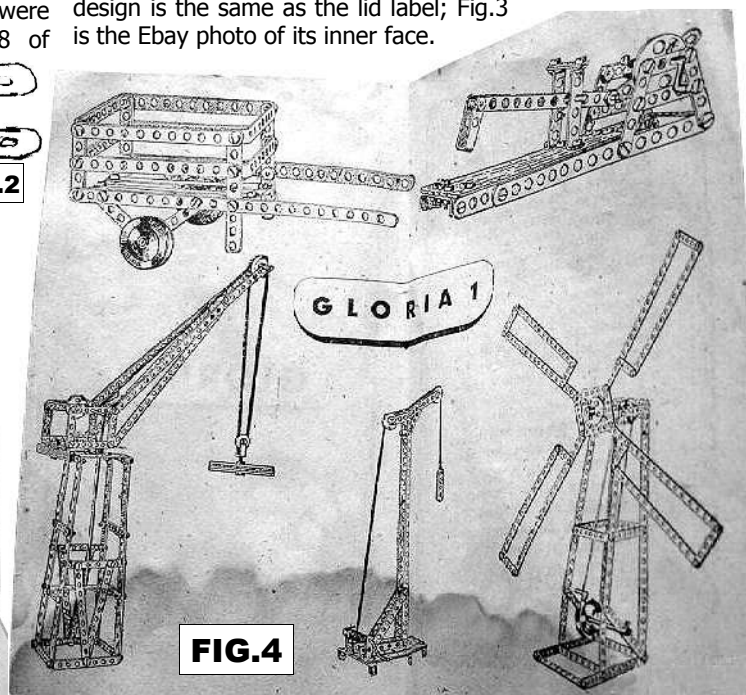

FIG.4
6. **GLORIA** Jean-Pierre Guibert has sent details of his No.1 set, and included the photo below which shows each of the parts except the 1*4*1h DAS. The details correspond closely to the photo in 28/839 & the notes in 43/1316, but with the following differences & additions. The box measures 160*95*21mm and the manual (as Fig.4 in OSN 43) 150*85mm after folding. Its back page has text extolling GLORIA's virtues. The parts are nickelled. Holes are 3mm and the Axles are 2.8mm Ø. The thread is 2.5mm Ø with a pitch of .45mm. Nuts are hexagonal; the Bolts have cheeseheads which scale at 4½mm Ø. Jean-Pierre noted that the holes' pitch and thread size are the same as MIGNON (see 10/262).